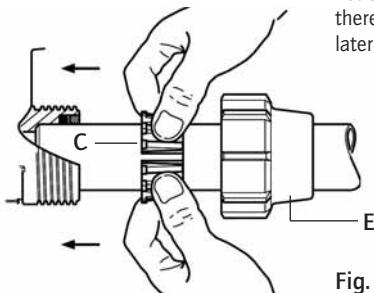

Fig. 2
- Bevel the end of the pipe and slide on nut (Fig. 2-E) and then ferrule (Fig. 2-C).
- Slide pipes into water inlet and outlet (Fig. 2) as far as they will go.
- Push one ferrule (Fig. 2-C) against the inlet and the other against the outlet.
- Tighten the nuts (Fig. 2-E).